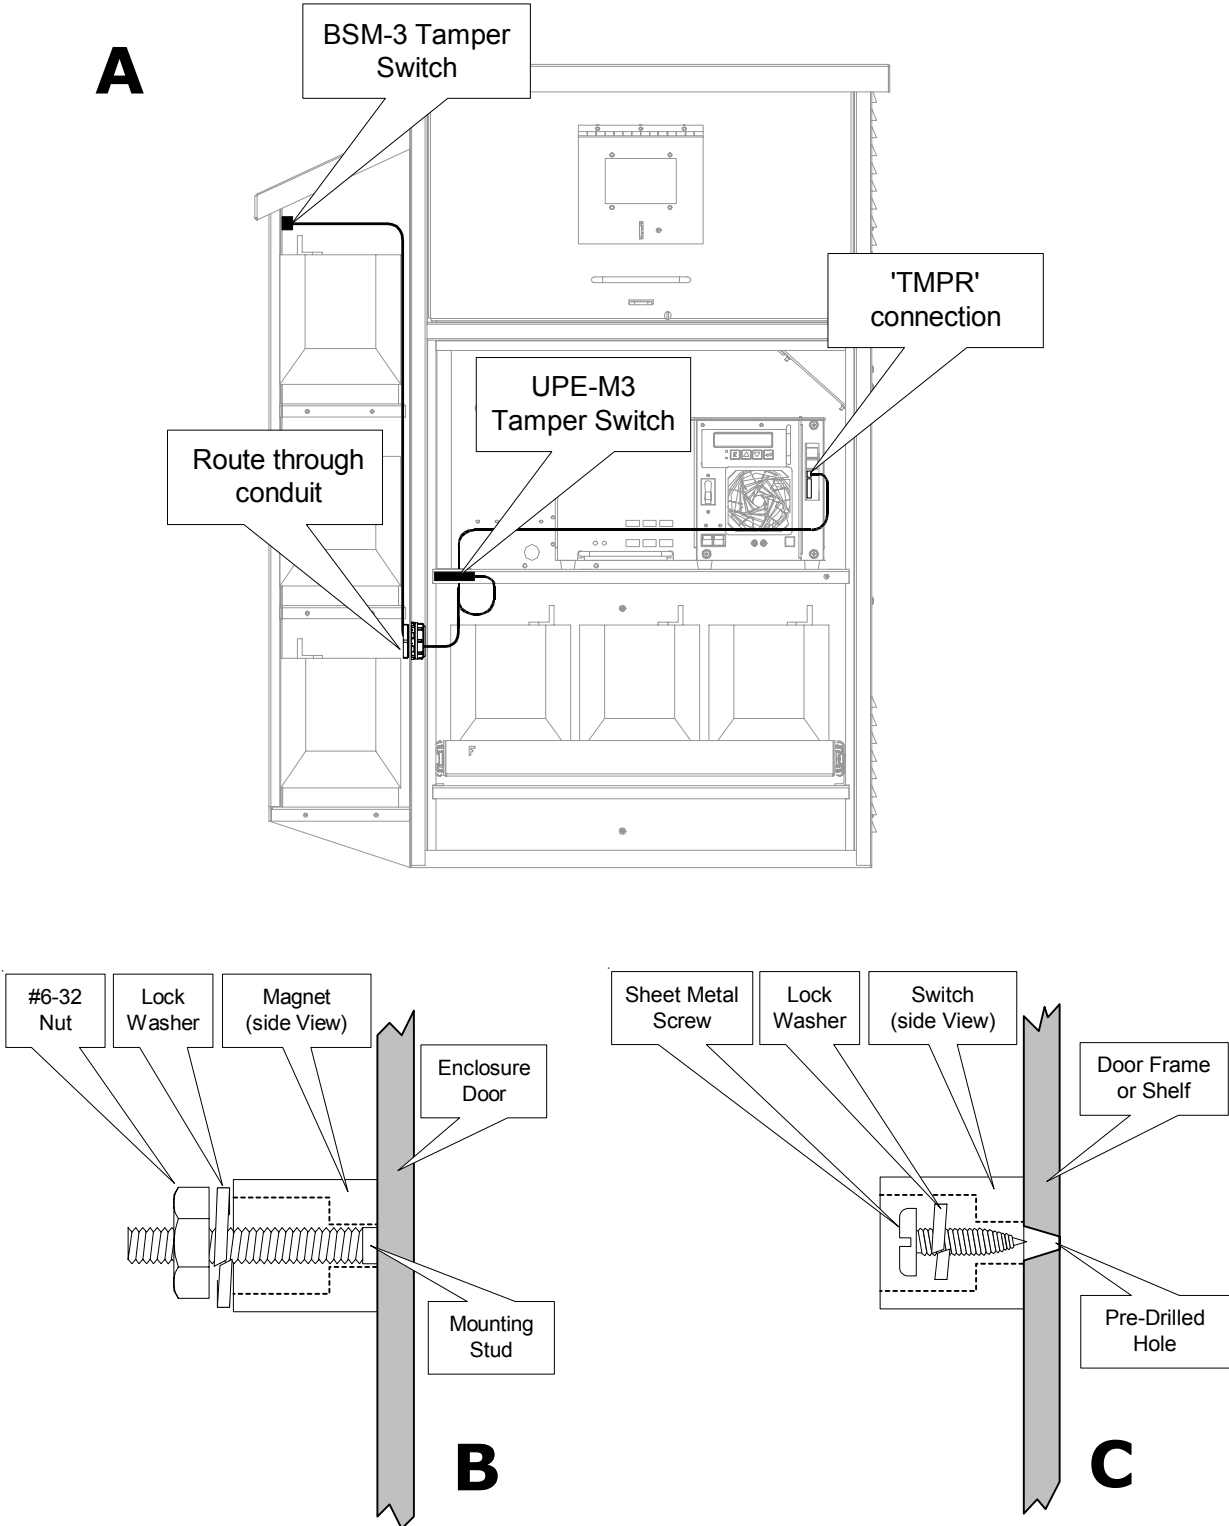

Fig 1-3 Tamper Switch Replacement / Installation
3. Route the new tamper switches and connector through the cable conduit between the UPE-M3 and BSM-3 enclosures. See Fig. 1-3 (A), on the following page.
4. Using the predrilled holes, install the new tamper switch on the left side of the power supply shelf in the UPE-M3 and on the upper left door jamb in the BSM-3, using the sheet metal screws and lock washers provided in the tamper switch kit. See Fig. 1-3 (C)
5. If not previously installed, attach the magnet portion of the tamper switches to the studs on the doors directly opposite the switch, with the #6-32 nuts and lock washers included in the tamper switch kit. See Fig. 1-3 (B).
6. Connect the tamper switch cable connector to the jack on the front of the power supply labeled Tmpr. See Fig. 1-3 (A).